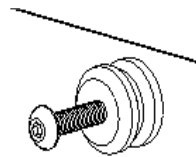

Figure 3
2. Attach mounting buttons to plasma using six M5 x 25 cap screws provided (see Figures 3 & 4).